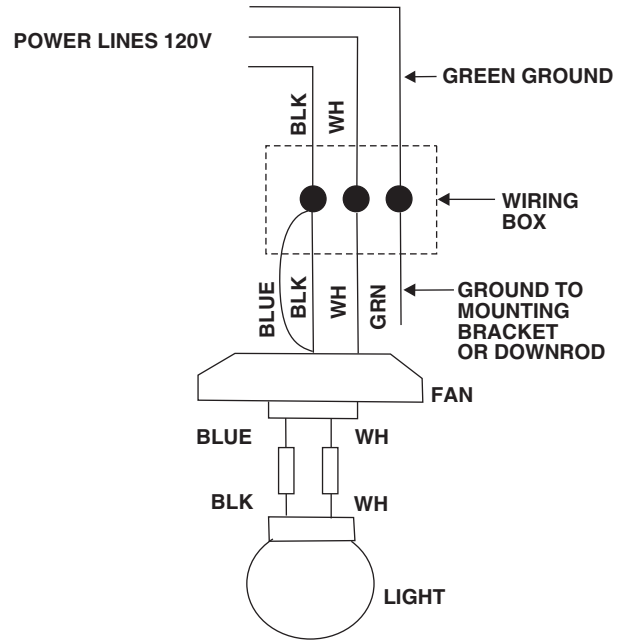

Figure 6
Step 1 Connect the fan supply (black) wire and light supply (blue) wire to the black household supply wire as shown in Figure 6.